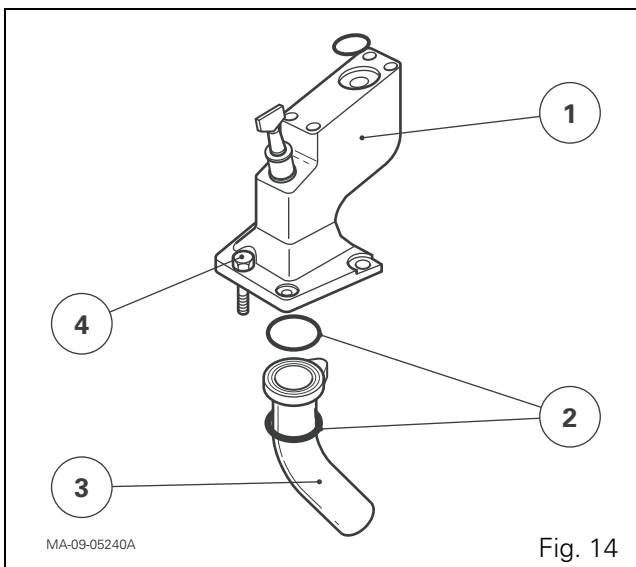

Fig. 14
9. If it was necessary to remove the support (1) (Fig. 14), replace the return pipe (3) O'rings (2). Tighten the screws (4).
10. Clean the manifold (21) mating face, along with that of the support (1).